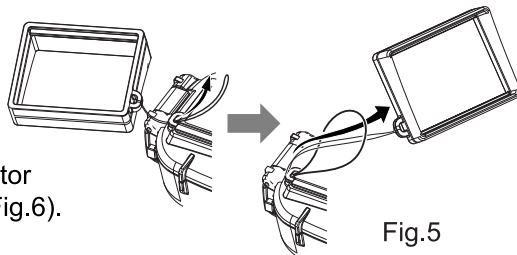

Fig.5
1. Put the LCD monitor hood string through the rear cover eyelet as shown (Fig.5).